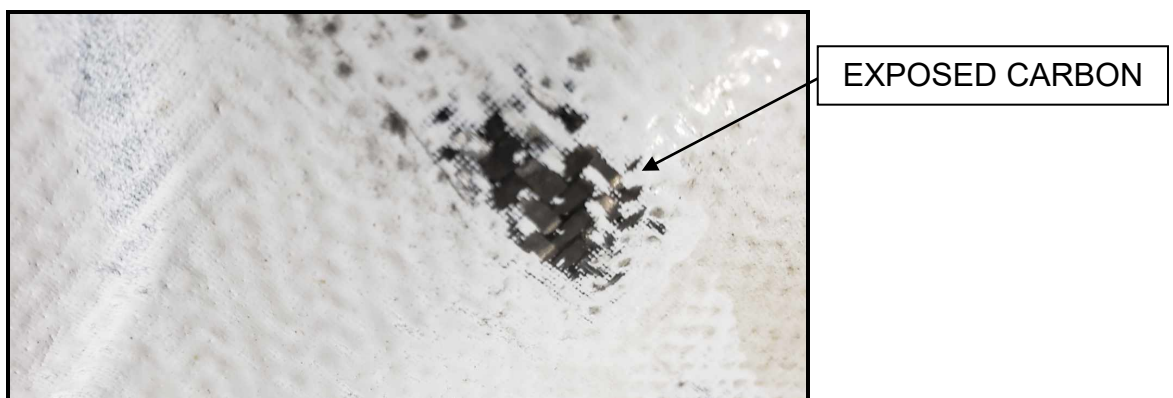

Figure 2 - Cowl Wear Example
3. Inspect upper and lower cowl for any sign of chaffing beyond normal wear. Zones of excessive wear are characterized by locations where paint has been completely worn away and underlying carbon is exposed. See Figure 2 below. Corresponding zones of sheen or worn down edges will be in evidence on the components. Probable locations are: